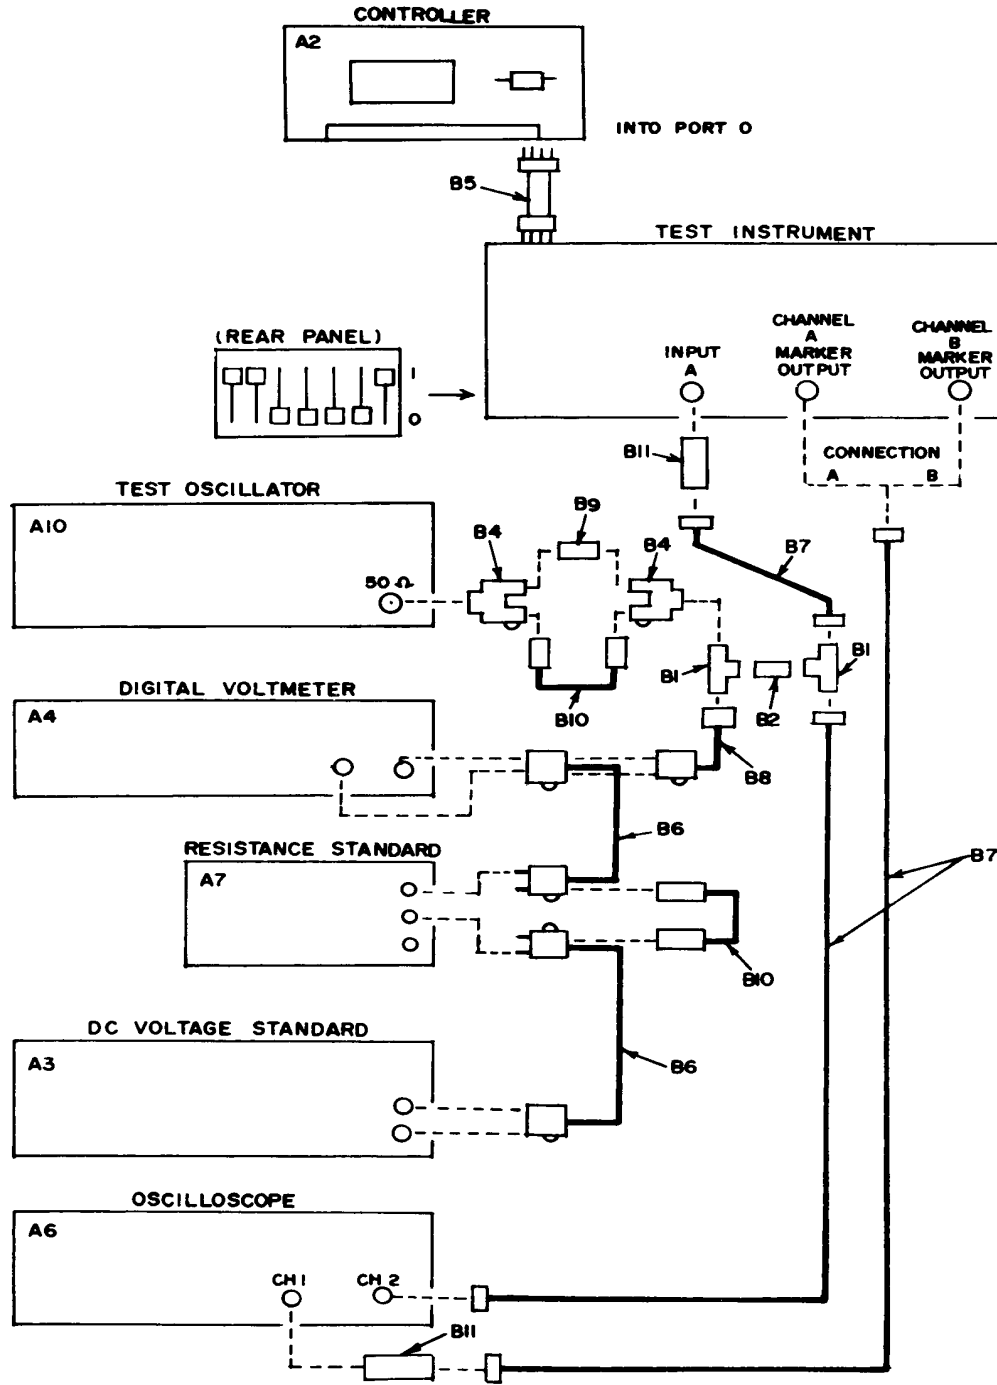

Figure 4. Trigger level adjustment - equipment setup.
- (1) Connect equipment as shown in figure 4, connection A.
- (7) Connect equipment as shown in figure 4, connection B.
- (9) Connect equipment as shown in figure 4, connection A.
- (10) Program controller as follows: PRINT@1,"PF4G6S13A379+2 $\emptyset\emptyset$ *B37+2 $\emptyset\emptyset$ *R".
- (11) Adjust dc voltage standard for a + 2.00000-V indication on digital voltmeter.
- (13) Connect equipment as shown in figure 4, connection B.
- (15) Connect equipment as shown in figure 4, connection A.
- (16) Program controller as follows: PRINT@1,"PF4G6S13A379-2 $\emptyset\emptyset$ *B37-2 $\emptyset\emptyset$ *R".
- (17) Adjust dc voltage standard for a -2.00000-V indication on digital voltmeter.
(19) Connect equipment as shown in figure 4, connection B.